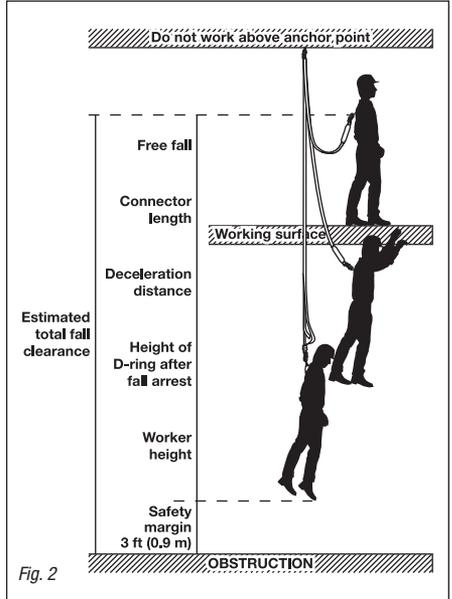

Fig. 2
3.2.1 Every anchorage point must be selected with care. The anchorage point location, in combination with the lanyard, should never allow a free fall of more than 6 ft. (1.8 m) (Figure 2). Always check for obstructions below the work area to make sure that the potential fall path is clear. When selecting an anchorage point, take into consideration the deceleration distance required by the use of the fall arrest system.
3.3.1 There must be sufficient clearance beneath the working area or potential fall path to arrest the fall prior to striking any obstruction or level below. Be aware that shock absorbers elongate. Use of additional fall arrest products, such as a rope grab, will present different deceleration distances and will require a greater clearance distance. Ensure to incorporate all deceleration distances as per *Figure 2* in the calculation of the estimated total fall distance.